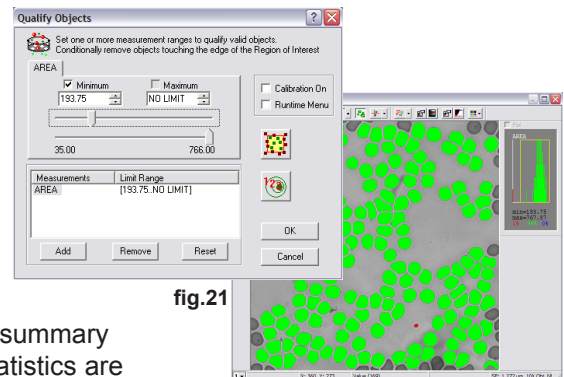

fig.21
5. Click on the **Qualify** icon in the **Task** toolbar. Reject unwanted objects by moving the top or bottom slider until unwanted objects appear red (fig.21)